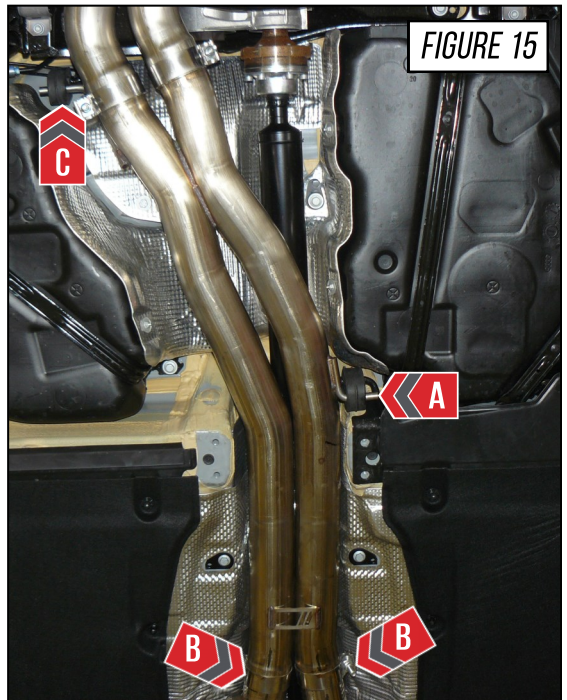

FIGURE 15
Place two (2) 3.0" Accu-Seal clamps over the inlets of the X-pipe section (*part B51*) and install into place, as shown by **Arrows B** in **Figure 15**.
Insert the bracket into the bushing that is located on the outlet side of the X-pipe section, as shown by **Arrow C** in **Figure 15**.